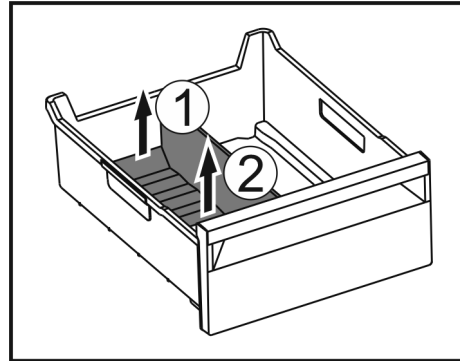

Fig. 178
- ▶ Lift the rear part of the ice compartment divider. Fig. 178 (1)
- ▶ Remove the ice compartment divider upwards. Fig. 178 (2)